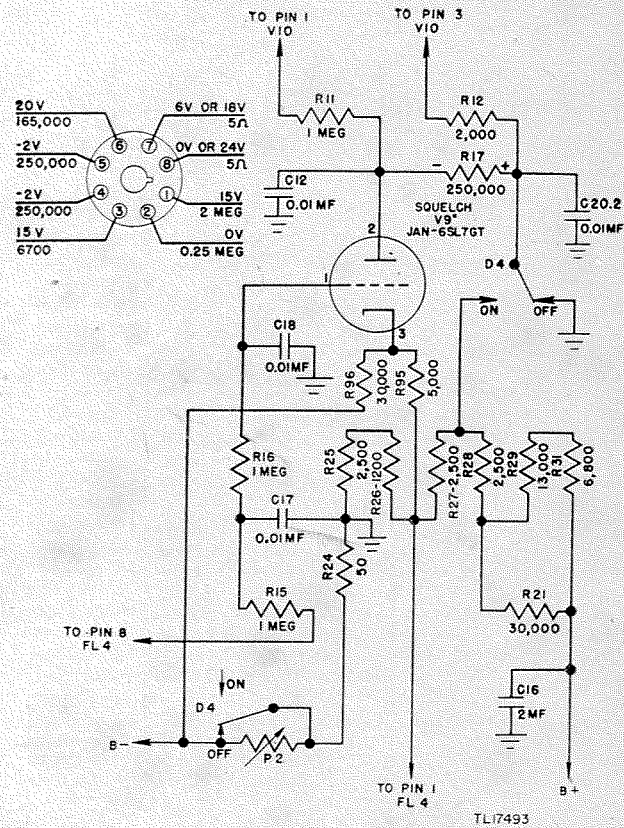

Figure 35. Radio Receiver BC-603-(*), squelch V9" — schematic diagram.
42. Parts List for Squelch Circuit, V9" (fig. 35)